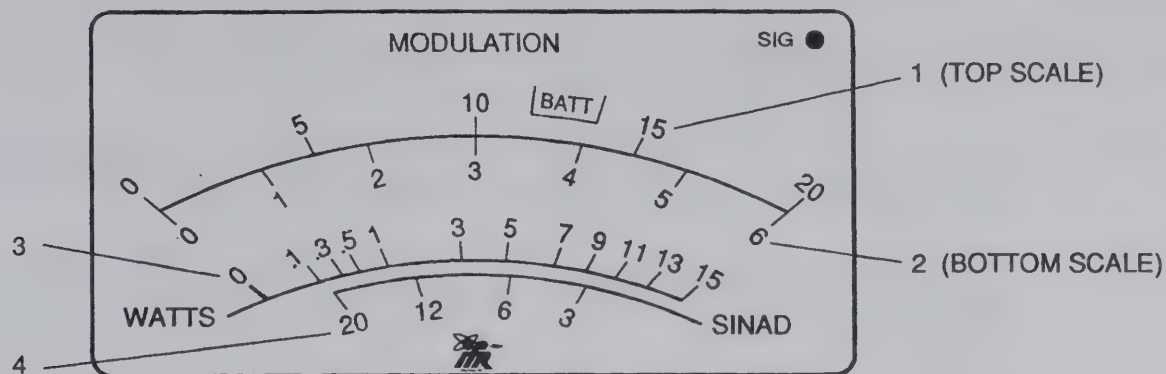

Figure 3-2 MODULATION Meter Scales
Selects input source for MODULATION Meter (1) as shown in Table 3-2 (Reference Figure 3-2).